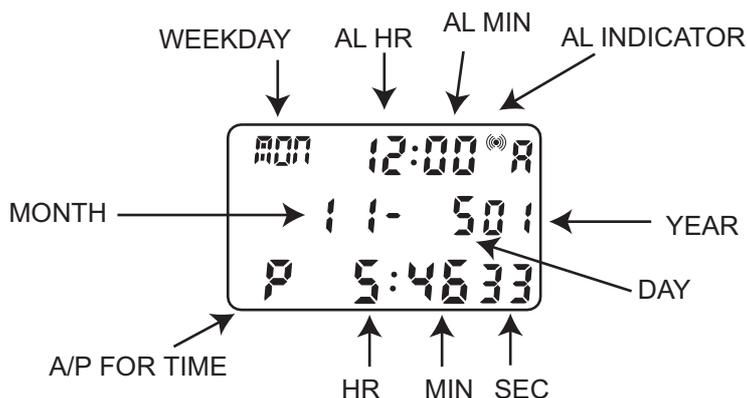

Fig. 24
- Press C to go to the TIME MODE. The display is as shown in Fig.24.
Pressing C any time during this setting sequence will complete the setting procedure and return to the normal TIME display as shown in Fig.24. If 12HR option is selected the calendar will be shown as MONTH/DATE/YEAR and time will be displayed in 12 HOUR system. If 24HR option is selected, the calendar will be displayed as DATE/MONTH/YEAR and time will be displayed in 24HOUR system.